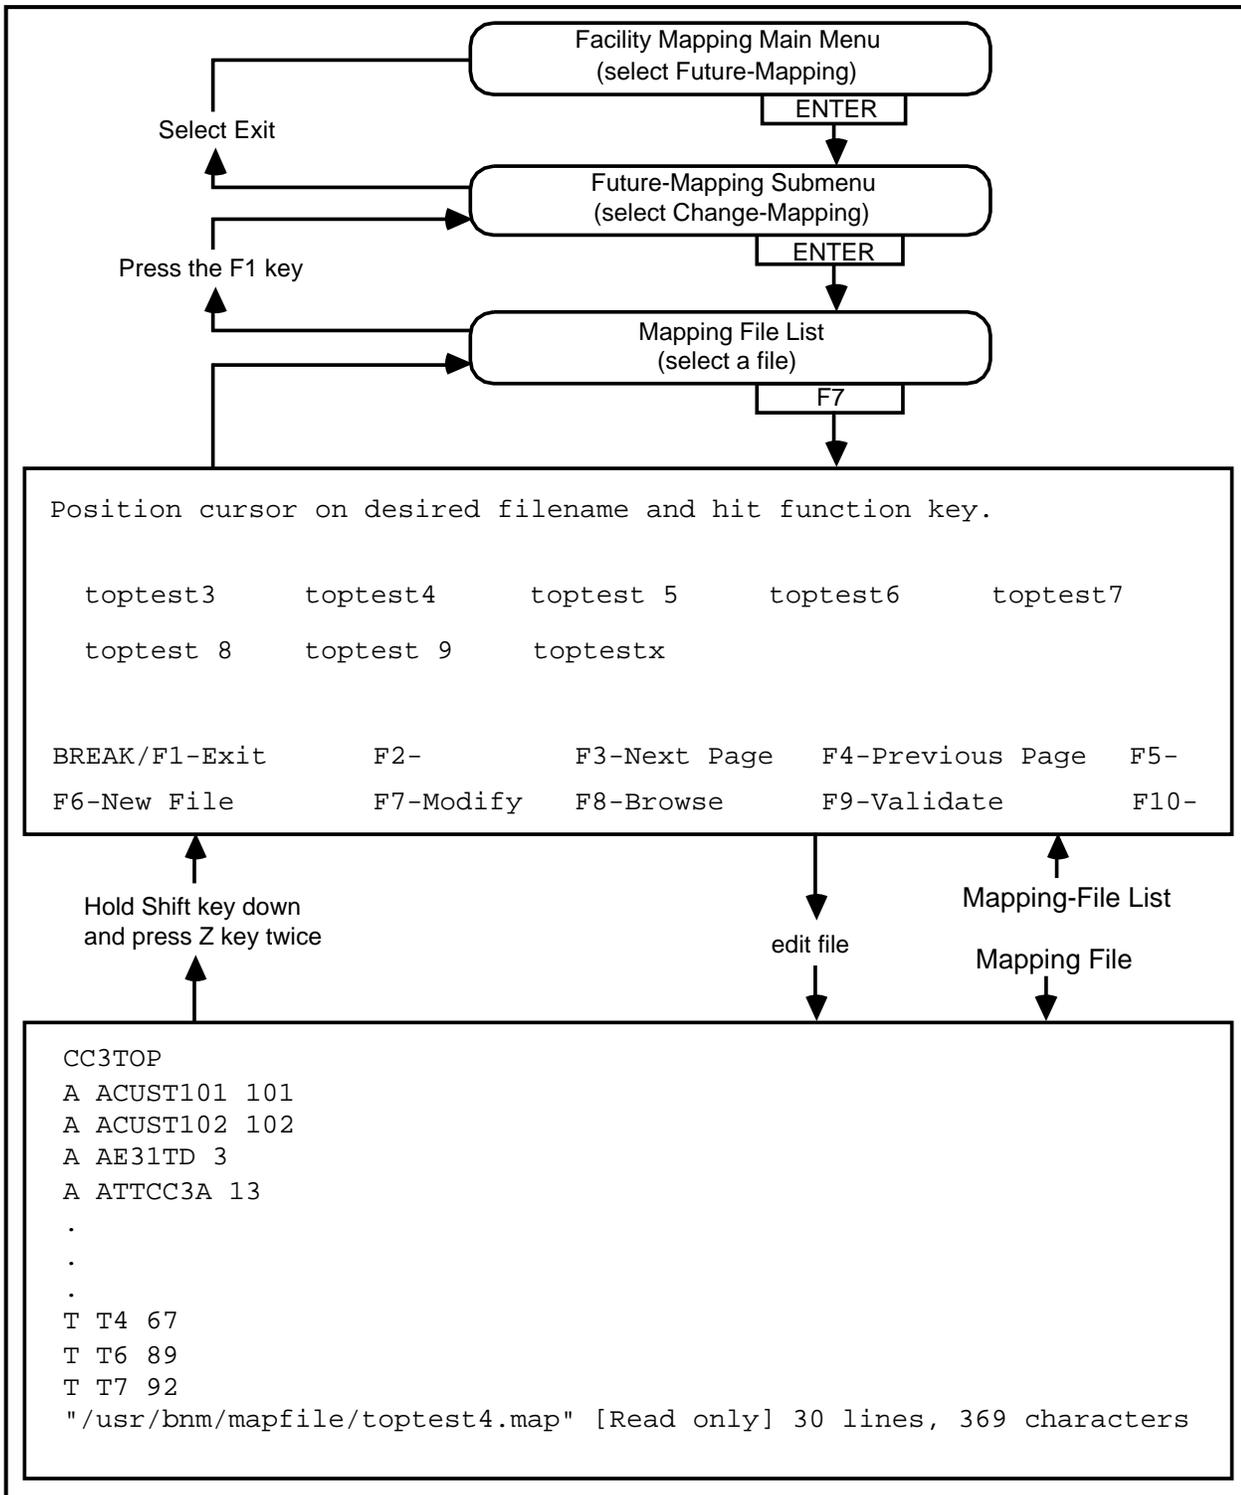

Fig. 7-13
7.33 To edit a dumped mapping file (see Fig. 7-13) proceed as follows:
==> A list of the mapping files appears (see Fig. 7-13).